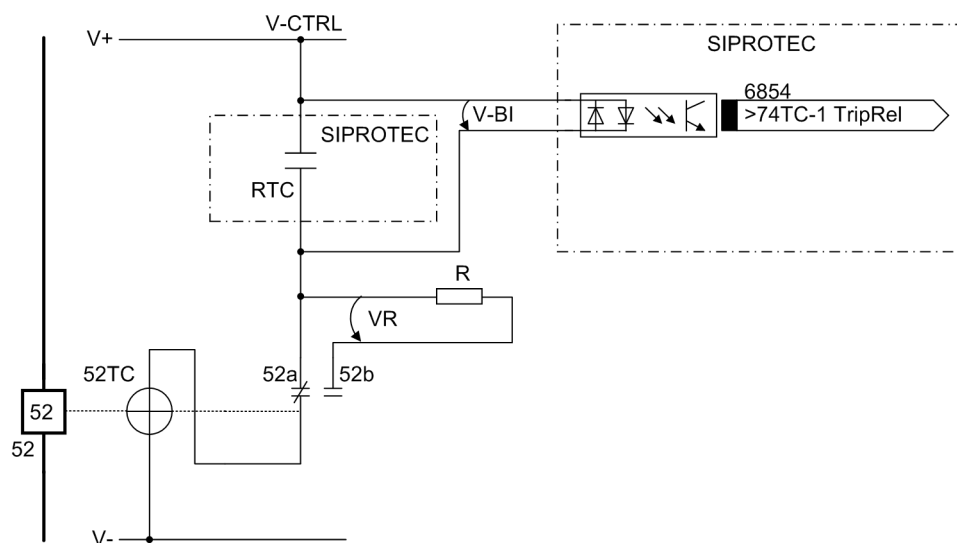

Figure 3-2 Principle of the trip circuit monitoring with one binary input
If one binary input is used, a bypass resistor R must be used (refer to ^{Figure 3-2}). This resistor R is connected in series with the second circuit breaker auxiliary contact (Aux2), to also allow the detection of a trip circuit failure when the circuit breaker auxiliary contact 1 (Aux1) is open, and the command relay contact has reset. The value of this resistor must be such that in the circuit breaker open condition (therefore Aux1 is open and Aux2 is closed) the circuit breaker trip coil (TC) is no longer picked up and binary input (BI1) is still picked up if the command relay contact is open.